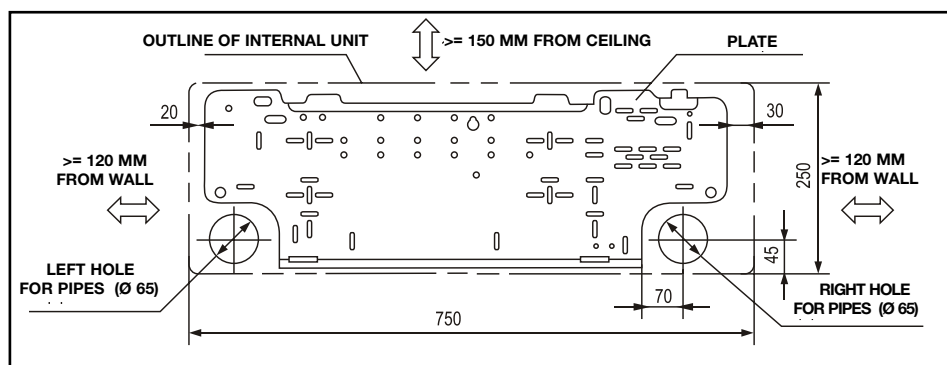

fig.1b
4. Drill the wall to allow passage of the pipes and electrical connections (diam. 65 mm) (fig.1b).